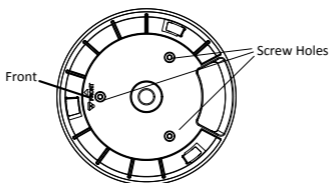

Figure 2-3 Drill Screw Holes
- 2) Drill three screw holes on the ceiling according to the installation plate as shown in Figure 2-3.